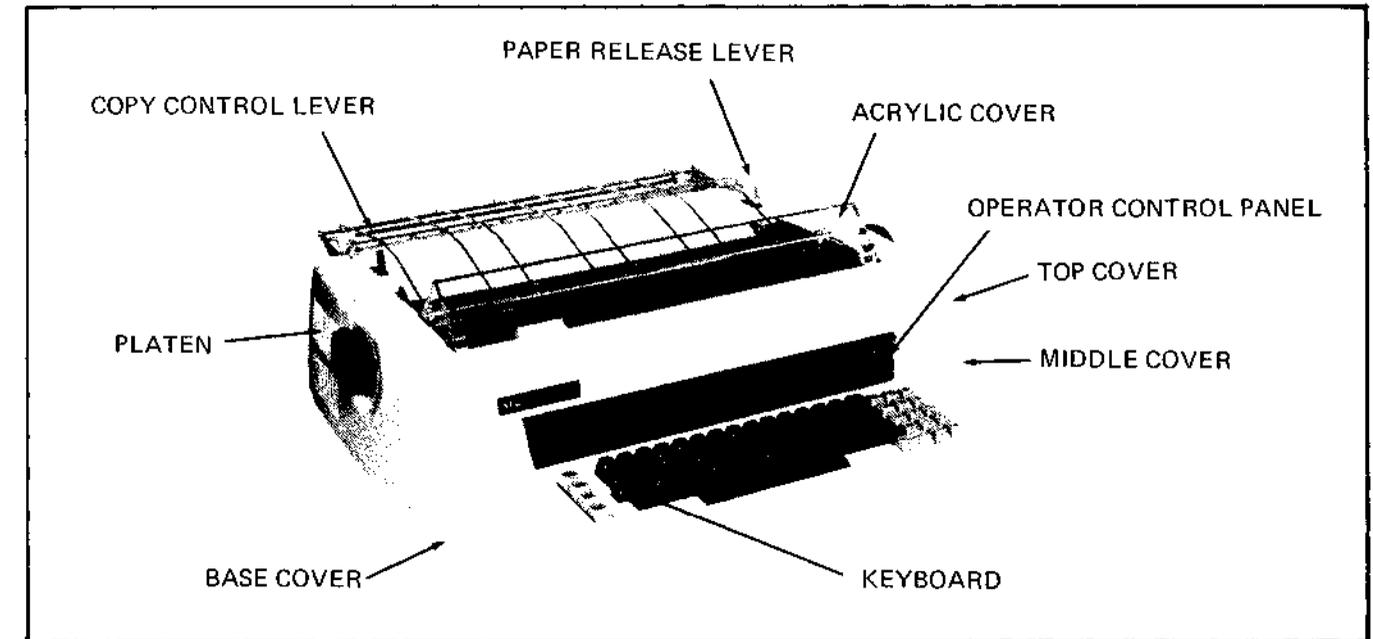

Figure 4-1 SPINWRITER Showing KSR Cover
- a. Open the top cover (Figure 4-1).